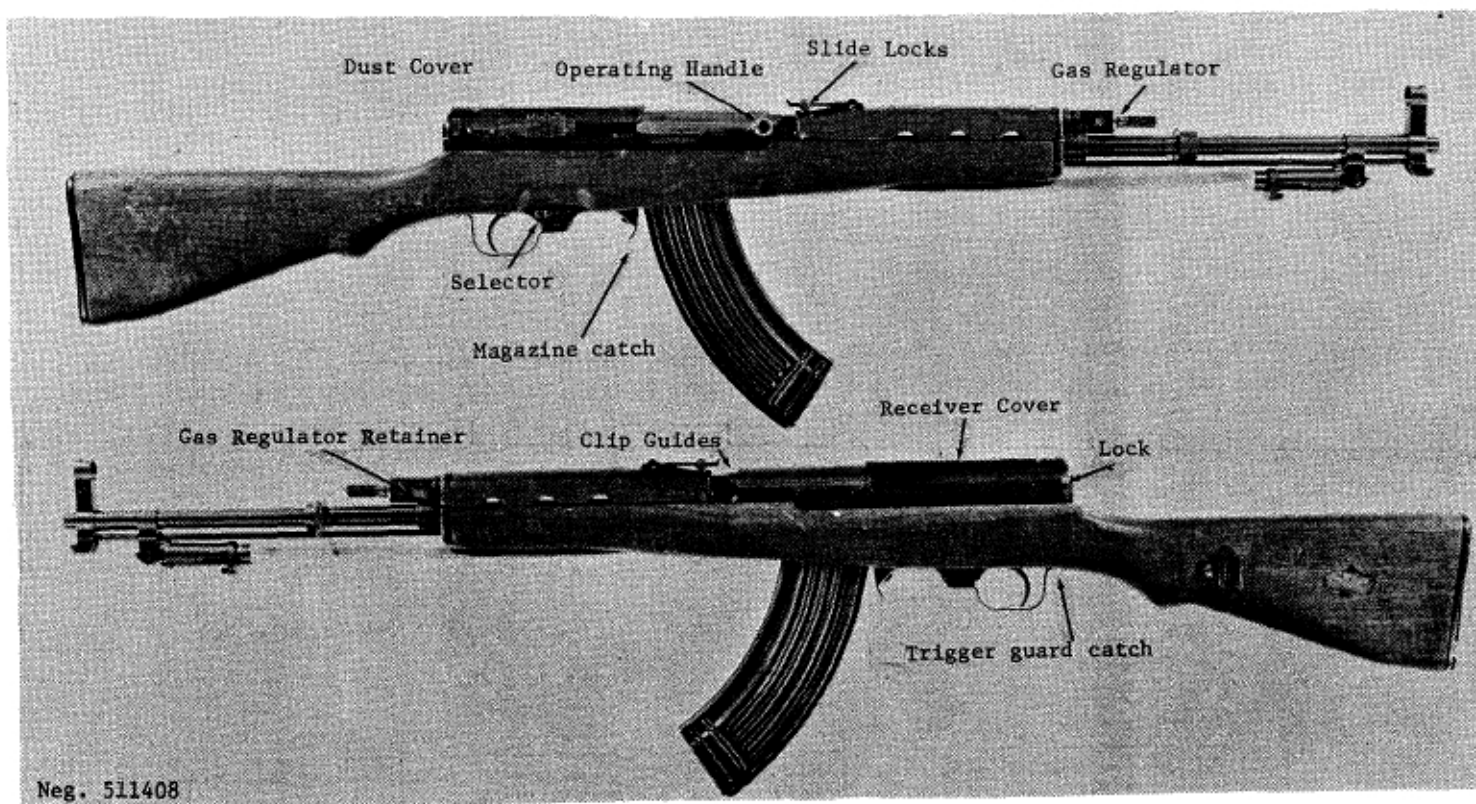
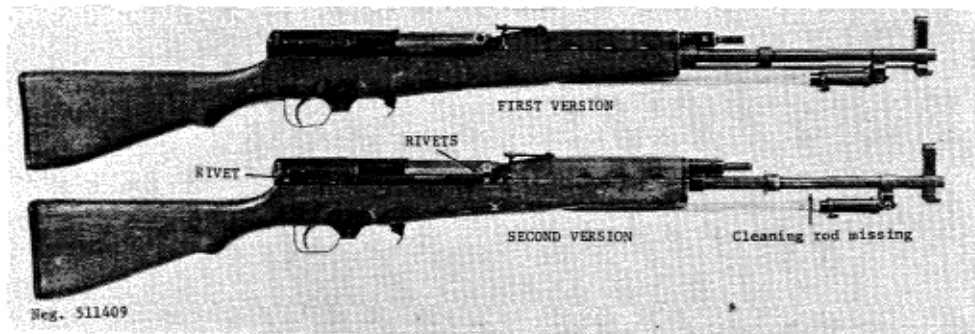
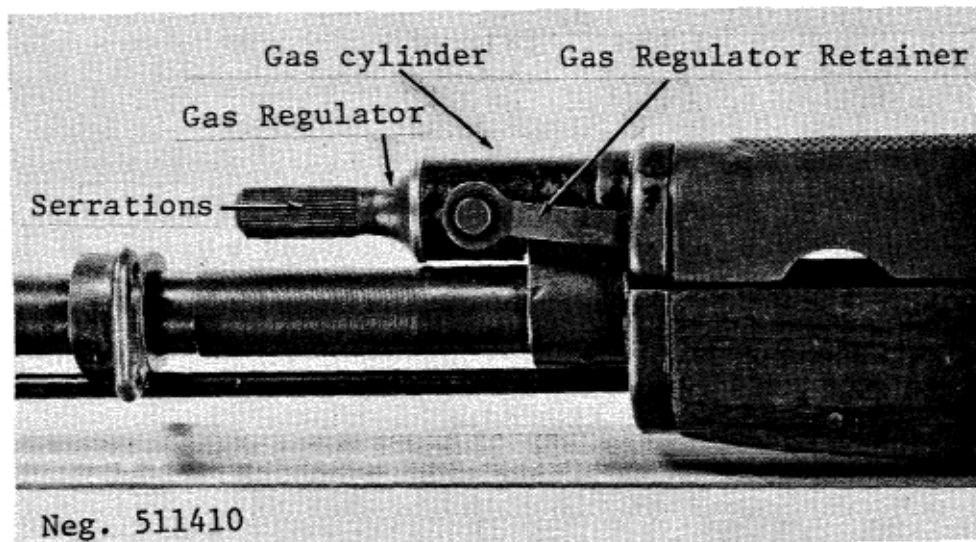

Figure 108. PRC Type 68 rifle (first version).
Figure 109. Type 68 rifles,
Figure 110. Gas regulator.
- (1) A three-piece sectional cleaning rod.
- (2) A bore brush.
- (3) An oil bottle.
- (4) A breech shield.
- (5) A fabric sling.
b. Two versions of this rifle exist. The earlier version (fig 108) has a receiver machined out of steel; the later model has a pressed steel receiver and can be identified by the large rivets at each side of the receiver (fig 109). There also are other minor differences between the two weapons.
a. With an empty magazine in the rifle, fully retract the operating handle and release it (the bolt mechanism will remain open unless the bolt stop has been removed or altered as described in paragraph 123c; if this is the case use preloaded magazines as described below). Insert ten-round SKS type stripper clips (fig 101) into the bolt carrier clip guides (fig 108) and, with the thumb
close to the clip, press the cartridges off the clip, into the magazine. Remove the clip, replace it with a fresh one, and press five additional cartridges into the magazine. Then remove the clip with the remaining cartridges. If stripper clips are not available, place individual cartridges on the magazine follower and press them down until they roll under one of the magazine lips. Alternatively, magazines can be loaded, out of the rifle, by placing cartridges on the magazine follower and pressing them down until they roll under the magazine lip. Load the magazine into the rifle by holding it canted forward and engage the lug on its front top with its recess inside the magazine well, then swing the magazine rearward until the magazine catch (fig 108) snaps into place. Pull the operating handle fully rearward and release it.
b. Unless the rifle is to be fired immediately, put it on safe by rotating the selector (fig 108) to the rear or "0" position. This locks only the trigger; the breech mechanism can be opened if necessary. Slide the dust cover (fig 108) forward.
c. Set the rear sight to the desired range by depressing the slide locks (fig 108) and moving the sight bar along the leaf until the front edge of the bar is aligned with the line below the number that corresponds with the range in hundreds of meters. The symbol "III" is a battle sight setting used in combat for shooting at ranges to 300 meters.
d. The front sight is adjustable for zero; refer to paragraph 95b(2) for the procedure to be followed.
e. To fire, rotate the selector (fig 108) forward off safe; the vertical or middle position (indicated by "1" provides semiautomatic fire and the forward position (indicated by "2"
f. Remove the magazine by pressing the magazine catch (fig 108) toward the magazine and then rotating the magazine forward until it comes out.
g. If the rifle is sluggish from cold or fouling, the gas regulator (fig 108) should be adjusted to admit additional gas to operate the mechanism. Press the gas regulator retainer (fig 110) in toward the gas cylinder until it disengages from the handguard. Rotate the retainer down until it can be pulled out of the gas cylinder.
The gas regulator has indicator holes at the end of the serrations (fig 110). The diameter of these holes corresponds with the gas ports in the regulator, and normally the small hole is nearest the barrel. To remedy sluggish action, turn the regulator so that the largest hole is nearest the barrel, then align the holes in the regulator and gas cylinder and insert the retainer. Swing the retainer up until it locks into the handguard.
i. To unload or clear the Type 68 rifle, set the selector to its rear ("0") position, remove the magazine (f, above) and pull the operating handle fully rearward. Inspect to insure that no cartridge is present, then release the operating handle. Rotate the selector off safe, press the trigger and reset the selector back to safe. Insert the magazine. Slide the dust cover (fig 108) forward.
a. Clear the weapon (para 125i) but do not insert the magazine. Press in the lock (fig 108) at the left rear of the receiver cover and pull the cover rearward, off the receiver.
c. If the rifle is a later model with the stamped receiver, press in the lock (fig 108) and pull the driving spring and its guide forward until they clear their seat. Ease the spring upward, then remove it.
d. Pull the operating handle (fig 108) to the rear; at the same time, press down on it. When the bolt carrier is about one inch from the rear end of the receiver it will disengage from the receiver. Lift the bolt carrier out of the receiver.
f. Disengage the gas regulator retainer (fig 110) from the handguard and rotate the retainer downward. Hold the gas regulator and remove the retainer. Point the muzzle down and catch the piston as it comes out of the gas cylinder (fig 110). Remove the piston and its spring. Slide the handguard forward and remove it; then move the piston heat shield (if present) rearward off the gas cylinder to remove it.
g. Invert the rifle and rotate the trigger guard catch (fig 108) located at the rear of the trigger guard until the trigger group disengages. Pull the trigger guard upward until it comes free. If desired, remove the stock by first moving the bayonet from its stowed position, then pull the rear of the stock away from the receiver.
j. Place the large end of the piston heat shield over the end of the gas cylinder and roughly align the shield with the front of the rear sight base. Insert the piston and spring, small end first, into the gas cylinder, through the heat shield, and into the hole in the rear sight base. Slip the handguard in place over the gas cylinder. Place the gas regulator (smallest port toward barrel) into the gas cylinder and, after aligning the holes in the gas cylinder and regulators, install the regulator retainer (fig 110). Swing the retainer up until it locks into the handguard.
m. Install the receiver cover by placing the tab on the left side of the cover immediately behind its slot in the receiver, ensuring that the cover is over the lock (fig 108). Press the cover down so that the tab on its right side is aligned with its slot in the receiver. Press the receiver cover forward until the lock snaps into its hole in the receiver cover. Install the magazine.